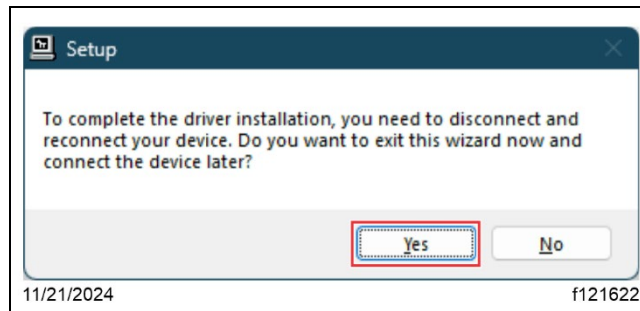

Fig. 44, Completing the Driver Installation
7.17. A 'Setup' window appears, select 'Yes.' See Fig. 44.